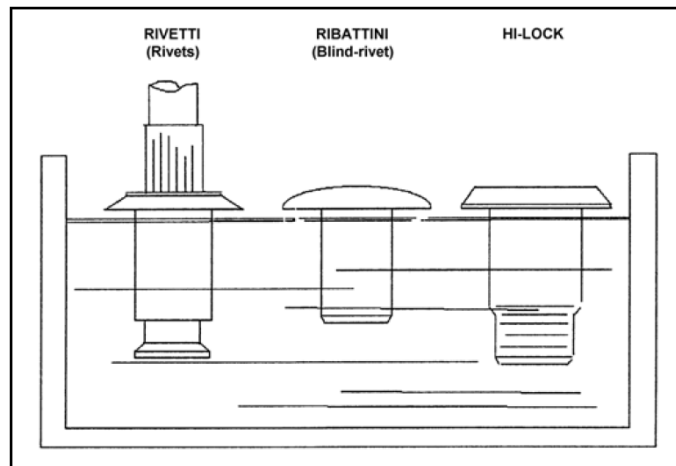

Figure 12: Wet sealing
- a) For “WET” installation of RIVETS, BLIND RIVETS and HI-LOK, dip fastener into TYPE 1C or TYPE 3 sealant (high temperature areas) before installation (Figure 12) and install it with sealant still wet.